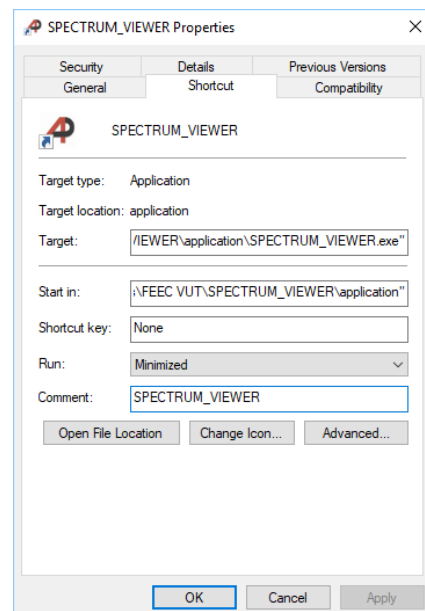

Fig. 7. Spectrum viewer properties.
3. The application can be run using the unzipped or installed SPECTRUM_VIEWER.exe file (the installed file is usually located in c:\Program Files\...\SPECTRUM_VIEWER\application\ directory). After installation it can also be executed from the Windows *Start* menu. The application launched from the *Start* menu will not probably find any configuration file. In such case go to SPECTRUM_VIEWER shortcut location (right-click on the application icon in the *Start* menu) then go to *More* and *Open file location*. Right-click on the SPECTRUM_VIEWER shortcut in the file location directory, select *Properties* and in the *Shortcut* folder copy the path except \SPECTRUM_VIEWER.exe from *Target* box into *Start in* box as shown in Fig. 7.